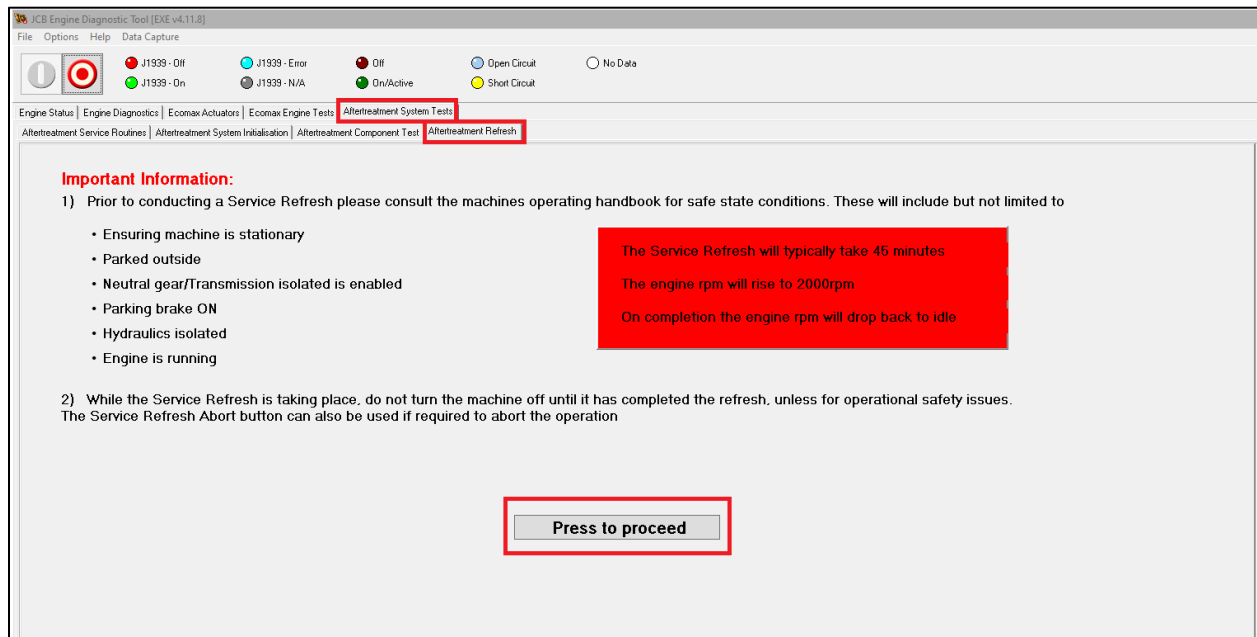

Figure 11
1. Open the JCB EcoMax Engine Diagnostics tool once connected to the machine and having the machine 'Keyed On'. Locate on the top row of tabs 'Aftertreatment Systems Tests' and click on it. Then click on the second-row tab labelled 'Aftertreatment Refresh'. Then press the button 'Press to Proceed'. See figure 11.